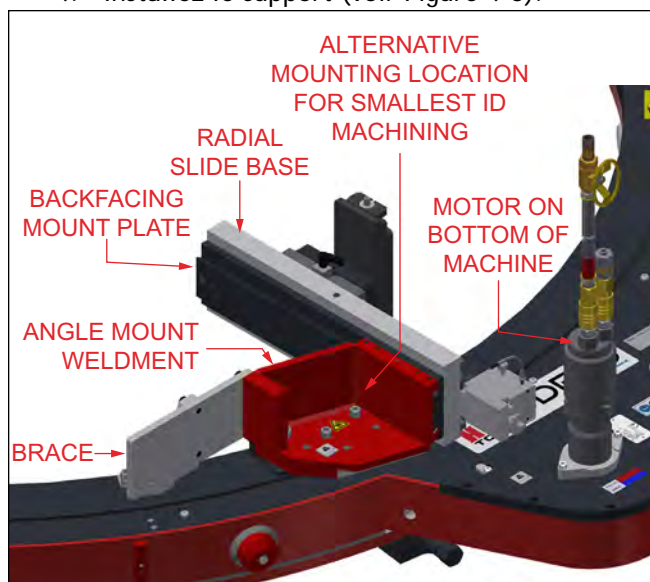

FIGURE 4-3. NOUVEL EMPLACEMENT DU MOTEUR ET EMPLACEMENT DU SUPPORT (ILLUSTRATION AVEC LA ODF80)
4. Installez le support (voir Figure 4-3).